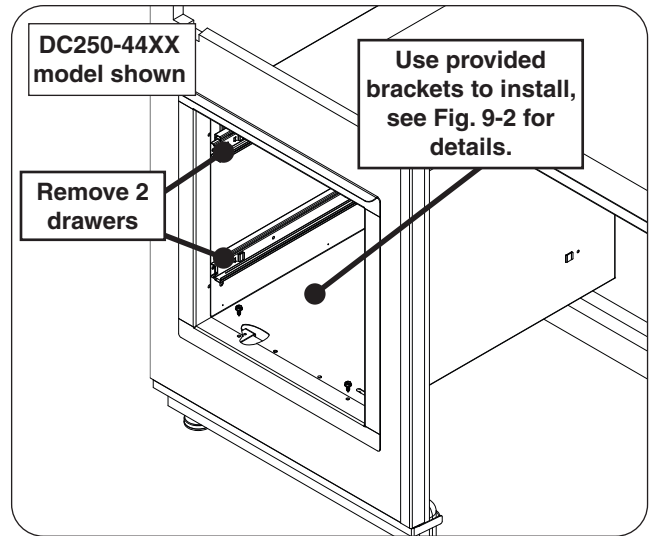
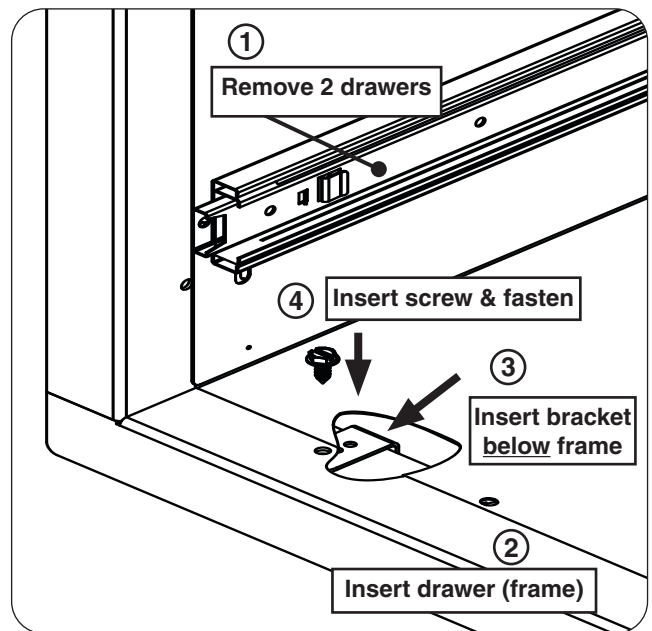

Fig. 9-1 Install drawer
Fig. 9-2 Install drawer detail
1. Remove the drawers. See Fig. 9-1. (Refer to the instructions provided with the drawer if needed.)
2. Insert your unit **completely** into the appropriate opening. Ensure it is flush against the exterior wall (see Fig. 9-1 and Fig. 9-2, step 2).
3. The drawer will have 2 round holes on both the top and bottom of its frame. Reach from within the island and insert a bracket where a hole exists, **below the frame**. See Fig. 9-2, step 3.
4. While squeezing the rear of the bracket and the front of the drawer frame **firmly** against the concrete wall, insert a hex screw and tighten with the power drill and 5/16" hex driver (see Fig. 9-2, step 4). **DO NOT OVERTIGHTEN.**